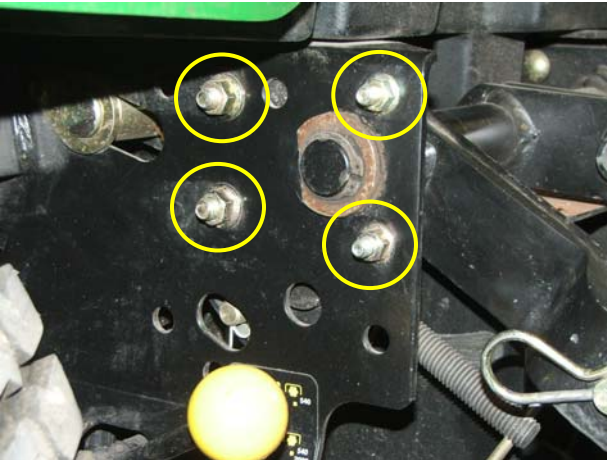

Figure 2
- 2) Remove the (4) carriage bolts from each side of the rear frame. See figure 2. Note: Bolts are not present on all machines.